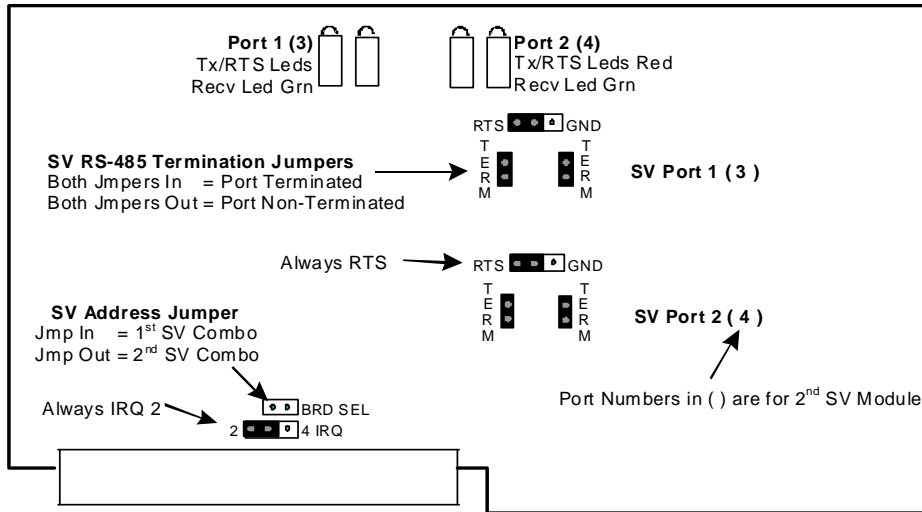

Figure 1. OMNI Model 68-6203 Multivariable Interface Module - SV Combo Module
The Multi Variable 'SV' Combo module contains several sets of jumpers which must be installed correctly (Figure 1).
The flow computer can accept up to two (2) 'SV' Combo modules, each with a unique address determined by the 'BRD SEL' jumper shown in Figure 1. With this jumper fitted the flow computer will report that a 'SV1' module is installed and SV ports 1 and 2 will be available. Without this jumper in the 'BRD SEL' position the flow computer will report that a 'SV2' module is installed and SV ports 3 and 4 will be available. Note that a system can have a 'SV2' module without a 'SV1' being installed, in this case only SV ports 3 and 4 would be available.
Both jumpers marked 'TERM' must be installed to terminate a flow computer 'SV' port (Figure 1). Termination settings for the 3095FB are shown later in this Technical Bulletin.